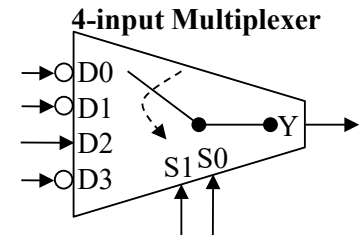

Figure 2: 4-input MUX.
In this part of the lab, you will implement the 4-input multiplexer described by Figure 2. The steps are largely identical to the steps in Part 1, except you are not required to implement this MUX using the gates in your lab kit; instead you will design it with SSI gates available in Quartus.
- Draw a voltage table for this MUX, paying close attention to the activation levels of the inputs and outputs shown in Figure 2.